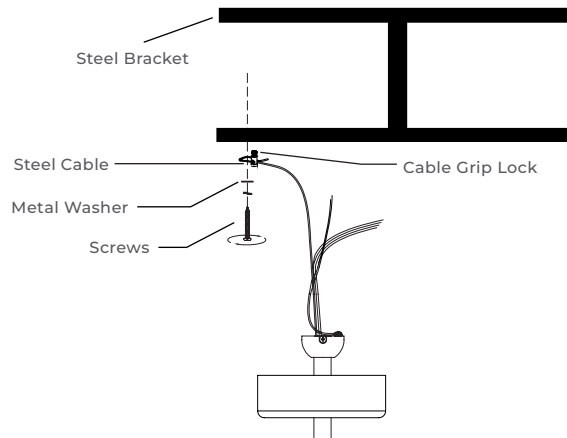

FIGURE 7
**C)** Put the end of the steel cable through the holes of the cable grip lock and form a small loop of suitable size. Then tighten the cable grip lock screws to lock the cable. Use a screw with a metal washer through the cable loop and secure it to the steel bracket on ceiling. (See Figure 7)